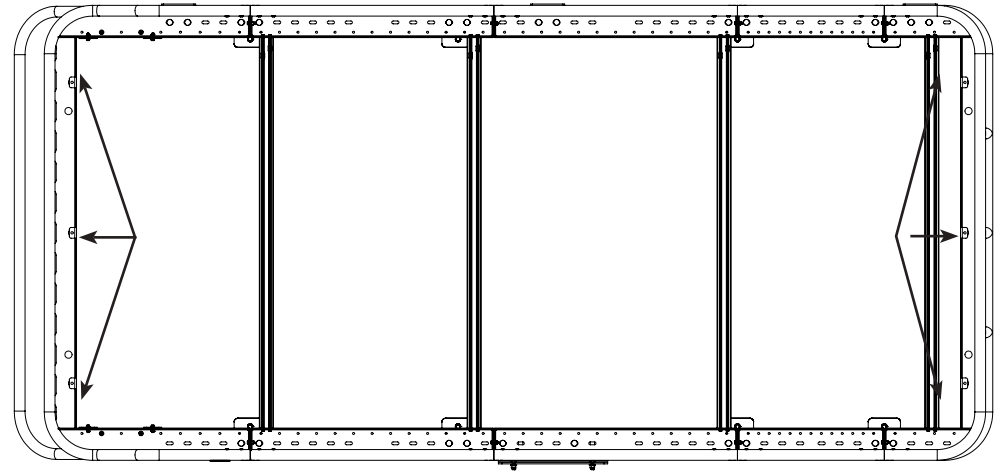

FIG 26
**11.1 Attach Clip Nuts to Baskets:** Install the **Clip Nuts** to the **Front and Rear Basket** locations as shown in FIG 26.